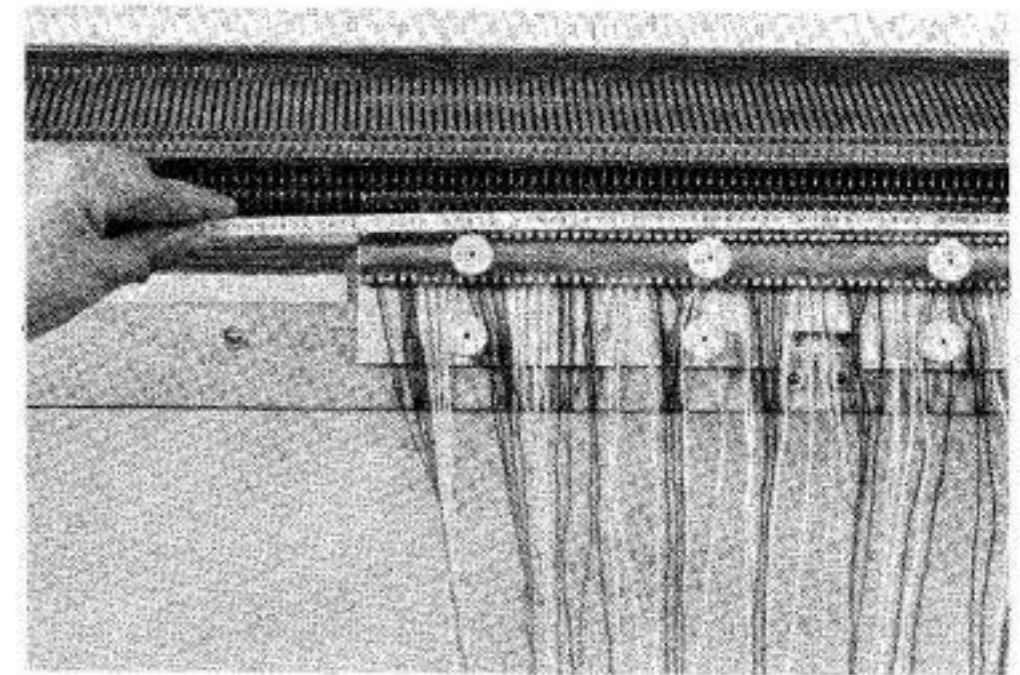

Fig. 21
- (4) While still holding the Attachment down, according to the size of pile required, insert one, or more, Needle Selection Guide Strips (or other straight rod of suitable thickness) along the contrasting colour just below the Sinker Hooks. (See Fig. 21.)
- (5) With the Needle Selection Guide Strip still held in this position, raise the Attachment and turn the Pitch Handle once to the right. Lower Attachment.